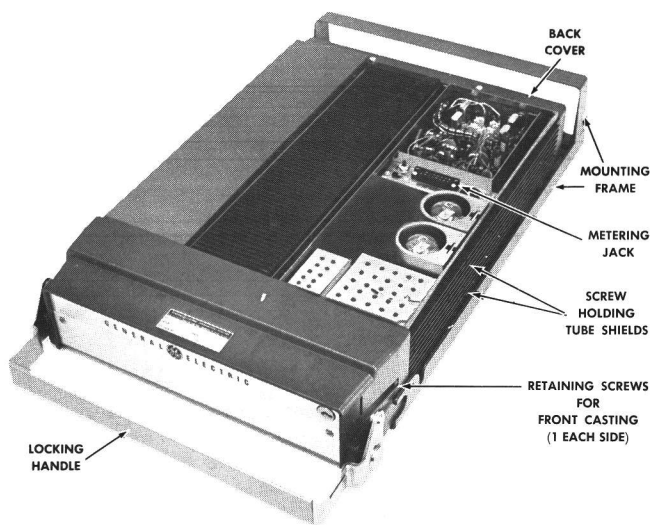

Figure 2 - Top Cover Removed
1. Loosen the two retaining screws in the front casting (see Figure 2) and pull casing away from the system frame.